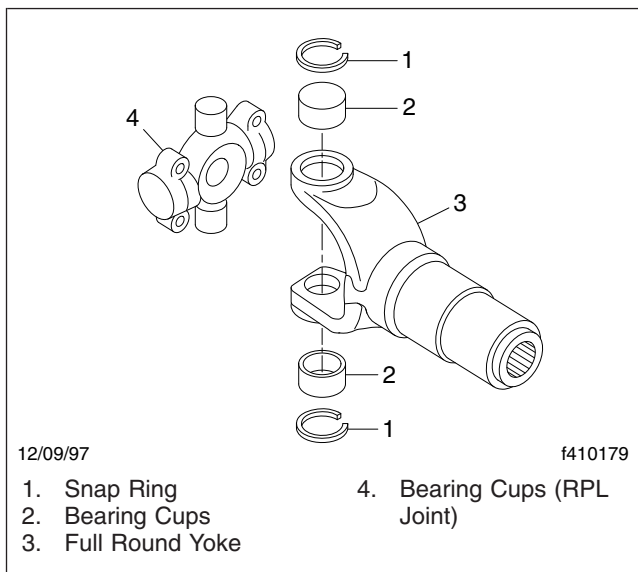

Fig. 4, RPL U-Joint Components
3. Remove and discard the snap rings. See Fig. 4.